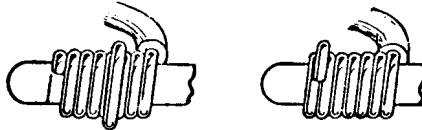

FIGURE 22. Overriding (Overlapping) Turns Resulting from Excessive Pressure
- f. Excessive pressure on the tool when wrapping can cause overriding (overlapping) turns as shown in Figure 22.